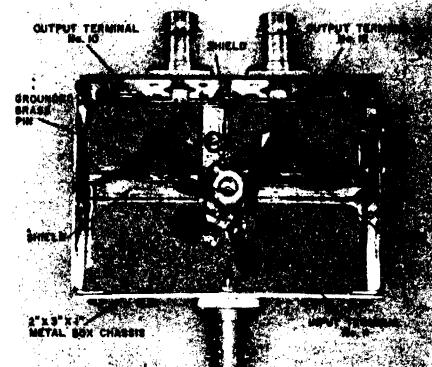

Fig.6 - Test Circuit Layout
Stable high-frequency operation requires that proper high-frequency construction techniques be followed. The photograph of Fig.6 illustrates the precautions taken in the construction of the test circuit of Fig.3.
1. Use sockets only when necessary. Sockets, when used, must provide shielding within the pin circle. The socket shown in the chassis of Fig.6 is a Barnes MG-120L, or equivalent, modified by drilling a 1/8" hole in the center and inserting a grounded brass pin.